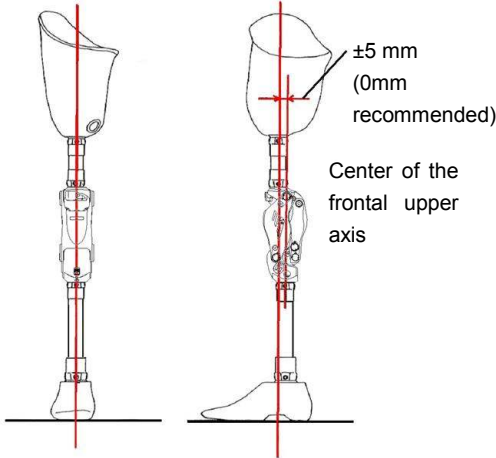

Fig. 7 Statistic Alignment
- As shown in Fig. 7, complete alignment so that the weight load line passes through the center of the knee axis of the knee joint within a deviation of ± 5 mm (0 mm recommended).